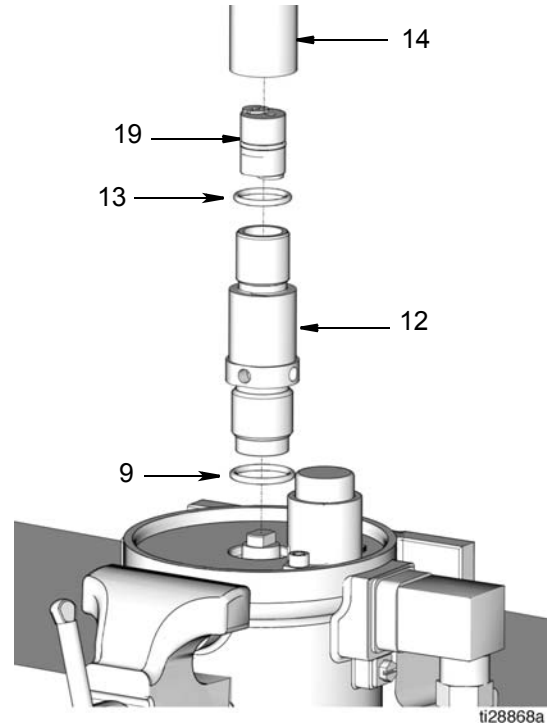

FIG. 18
14. Remove o-ring (13) from outlet tube (14). Remove o-ring (9) from pump cylinder (12). Dispose of o-rings according to all regulations for proper disposal (FIG. 18).